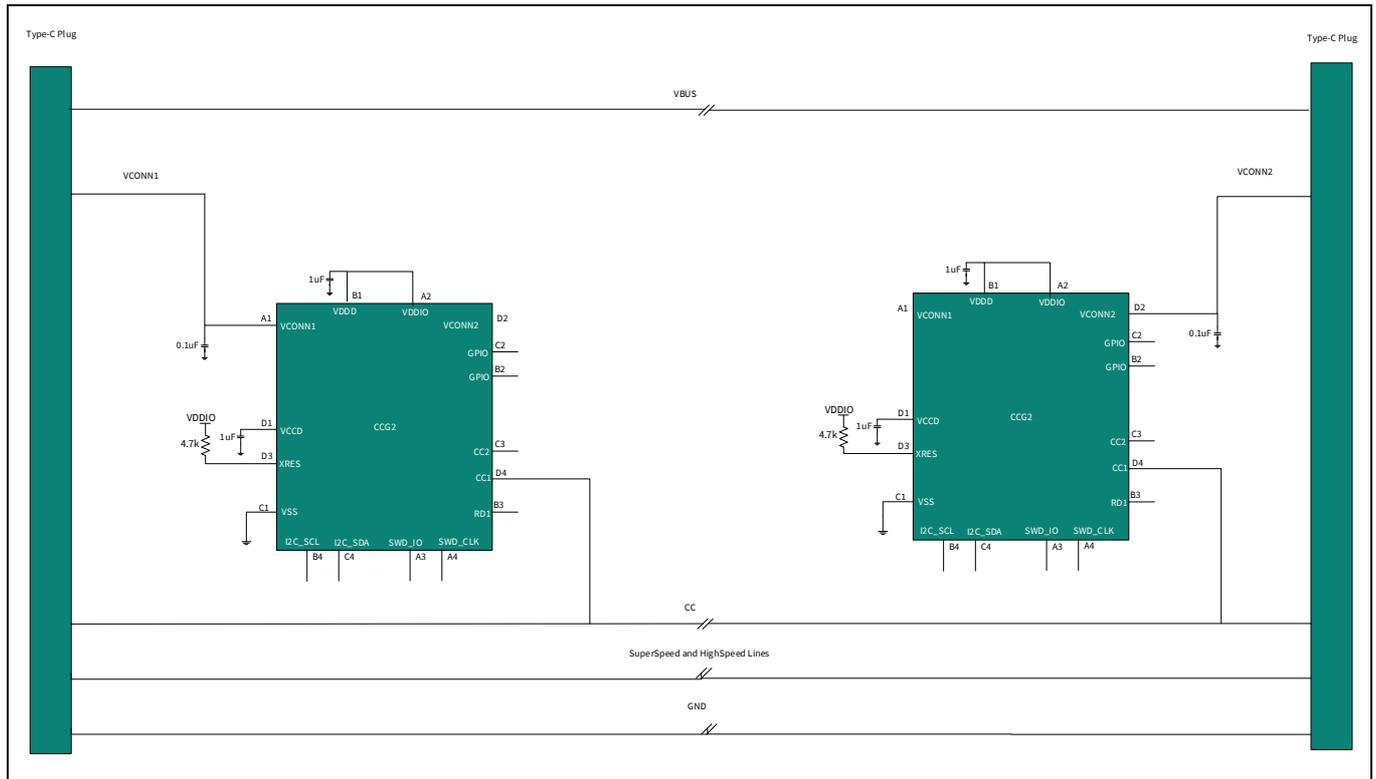
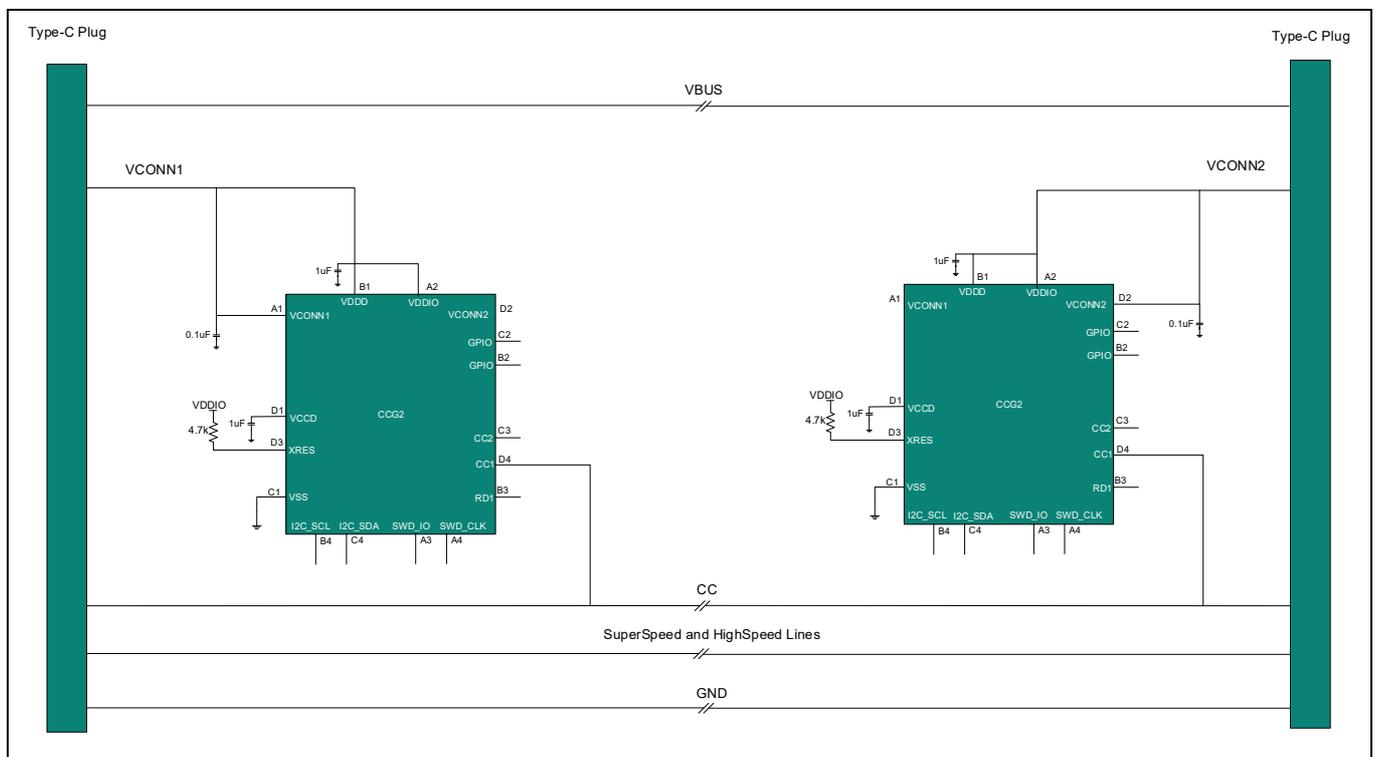

**Figure 9** Passive EMCA application – Single EZ-PD™ CCG2 per cable (VCONN range between 4.0 V to 5.5 V)
**Figure 10** Passive EMCA application – Single EZ-PD™ CCG2 per cable (VCONN range between 2.7 V to 5.5 V)
**Figure 9** to **Figure 12** show the application diagrams of a Passive EMCA application using CCG2 devices. **Figure 9** and **Figure 10** show the application using a single CCG2 device per cable present at one of the two plugs, whereas **Figure 11** and **Figure 12** show the same with two CCG2 devices per cable present at each plug. The VBUS signal, the SuperSpeed lines, HighSpeed lines, and CC lines are connected directly from one end to another.
The application diagrams shown in **Figure 9** and **Figure 10** require a single VCONN wire to run through the cable so that the CCG2 device can be powered irrespective of which plug is connected to the host (DFP). However, in the application diagrams shown in **Figure 11** and **Figure 12**, the VCONN signal does not run through the entire cable, but only runs to the respective VCONN pin of the CCG2 device at each end of the plug. Also, only one CCG2 device is powered at any given instance, depending on which one is nearer to the DFP that supplies VCONN.
**Note:** Application diagram in **Figure 10** requires external diodes to operate in the extended VCONN voltage range of 2.7 V to 5.5 V.